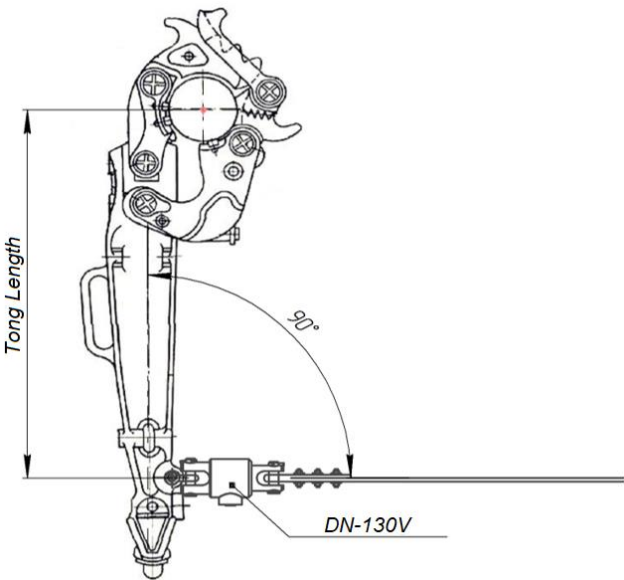

Figure 2. Installation of the DN-130V on the easy tong rope
The sensor is mounted between arm and working (holding) rope of the easy tong for TONG LINEPULL or TONGS TORQUE measurements. It is necessary to maintain angle between working rope and axis of the easy tong 90° for accurate measurement (see Fig. 2). Rope must lie in a plane perpendicular to the axis of the pipes being made up. It is recommended also to turn the DN-103V with the connector facing down in order to avoid its damage.
- **FACTOR** – Tong Length (see Fig. 2);